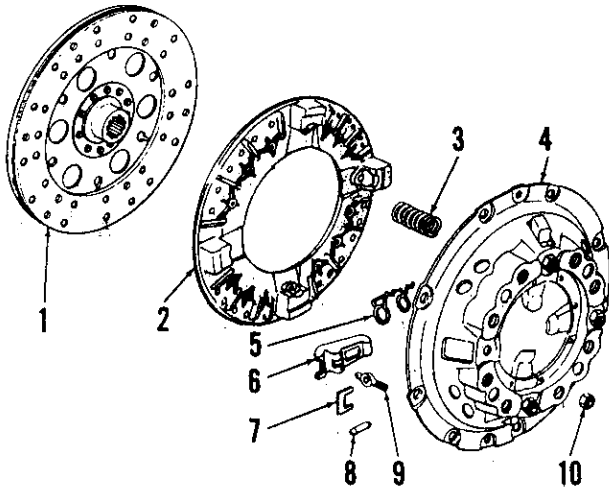
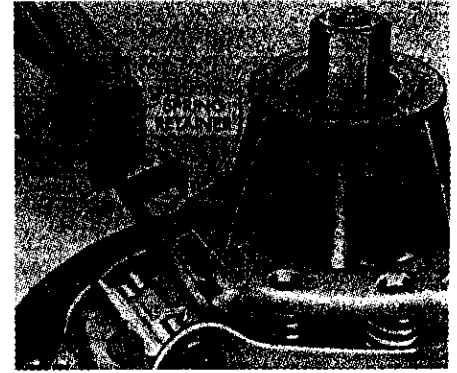
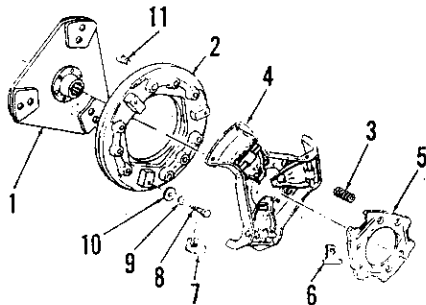
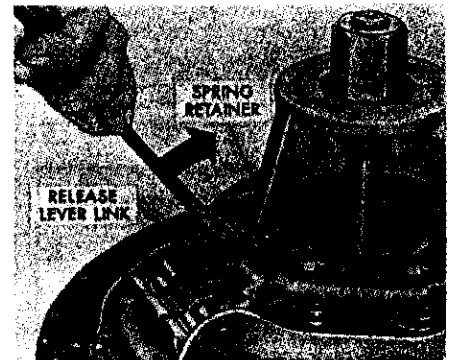

Fig. 173—Exploded view of early type single disc clutch used on three cylinder models so equipped.
Fig. 175—When disassembling cerametallic clutch, pry spring retainer to side as shown by heavy arrow, until lever link can be unhooked.
Fig. 174—Exploded view of the (Cerametallic) single disc clutch.
Fig. 176—Unhooking lever link.
Early type clutches used a full cover with four release fingers, and clutch disc facings were a full circle fibrous type as shown in Fig. 173. Beginning with October 1969 production, and continuing through August 1971 production, a ceramic button ("cerametallic") clutch was installed which uses a skeleton type cover with three release fingers as shown in Fig. 174. The "cerametallic" clutch units are not interchangeable with the earlier (prior 10/69) units and both the flywheel and clutch shaft must be renewed if the "cerametallic" type clutch is installed in early models. Beginning with September 1971 production, the "cerametallic" clutch was discontinued and a clutch similar to the early full circle (prior 10/69) clutch was installed. However, clutch disc of the latest full circle type is not interchangeable with the early type as it has square cut splines which fit the current clutch shaft that was introduced with the "cerametallic" clutch.
on clutch disassembly tool. On models with full cover, refer to Fig. 173 and remove the four finger adjusting nuts (10).
On (Cerametallic) units carefully depress spring retainer (5—Fig. 174) until it clears clutch cover (4) by approximately ¼-inch at nearest point. Using a screwdriver or similar tool, pry spring retainer sideways away from release lever pivot (Fig. 175), and unhook each lever link (Fig. 176) in turn, until all three are disconnected.
NOTE: It may be necessary to thread adjusting screws (8—Fig. 174) into pressure plate for additional finger clearance.
On all models, slowly release the pressure and disassemble cover unit. On late models, DO NOT remove release levers or pivot pins from clutch cover (4—Fig. 174); unit is available only as an assembly. Other parts of all clutches are available individually.